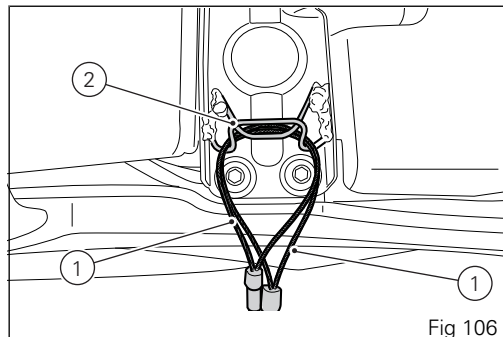

Fig 106
The correct position of the cable (1) ends in the pins (2) is shown in (Fig 106).